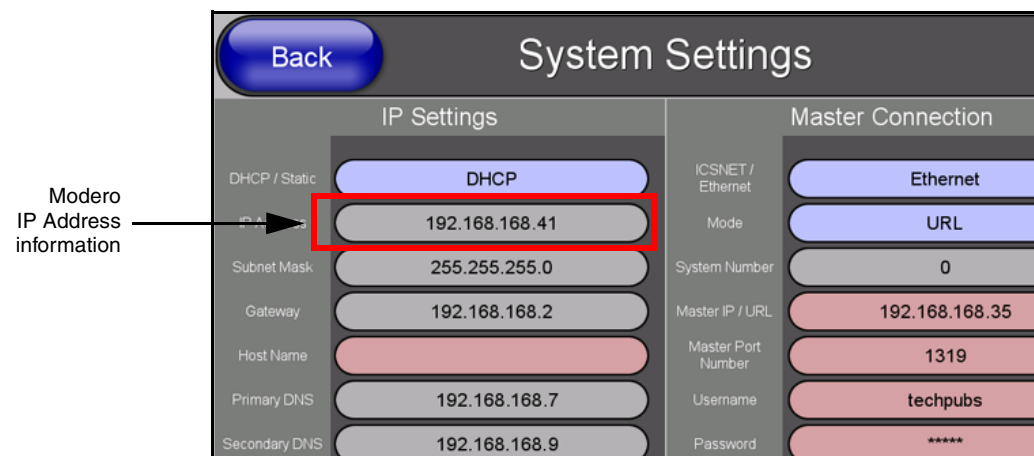
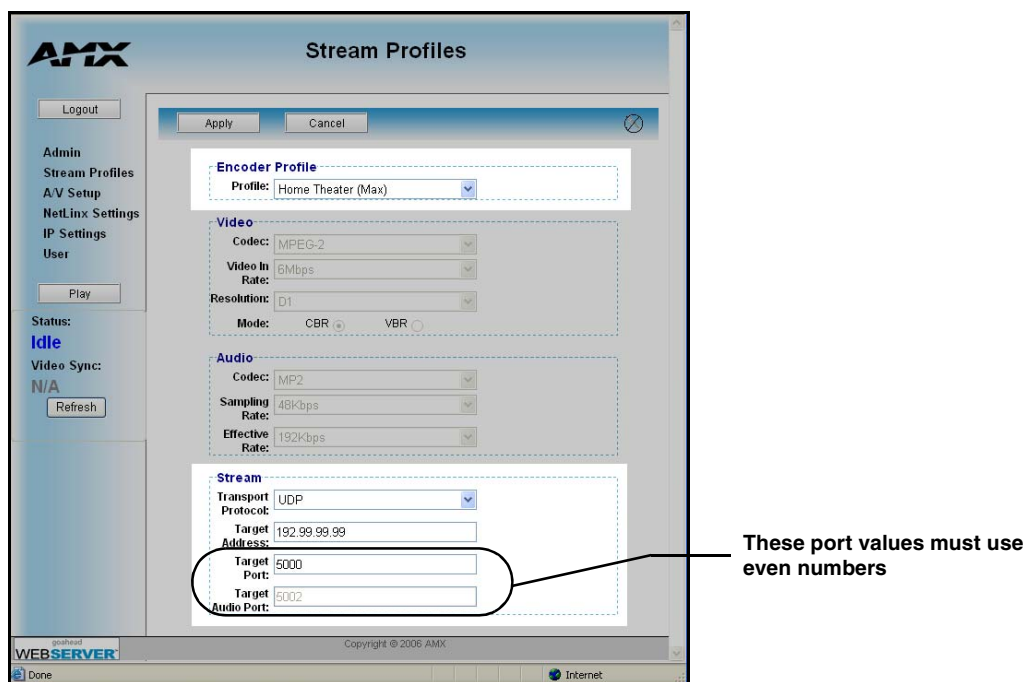

FIG. 128 System Settings page
FIG. 130 Stream Profiles page (showing a sample configuration)
4. Press the **System Settings** button (located on the Protected Setup page) to open the System Settings page and obtain the IP information from the *IP Address* field (FIG. 128).
9. Click the **Apply** button to save the encoding profiles to the MAX (FIG. 130).
10. From the Stream section of the page, locate the *Transport Protocol* field and use the drop-down arrow to select a desired protocol. For the purposes of these procedures, we've chosen **UDP** as the protocol (FIG. 130).
11. Enter the previously obtained IP Address of the target Modero panel (FIG. 128) into the *Target Address* field (FIG. 130).
- For the purposes of these procedures, we are not required to enter a Target Audio Port value because the A/V content is not begin streamed separately (FIG. 130).